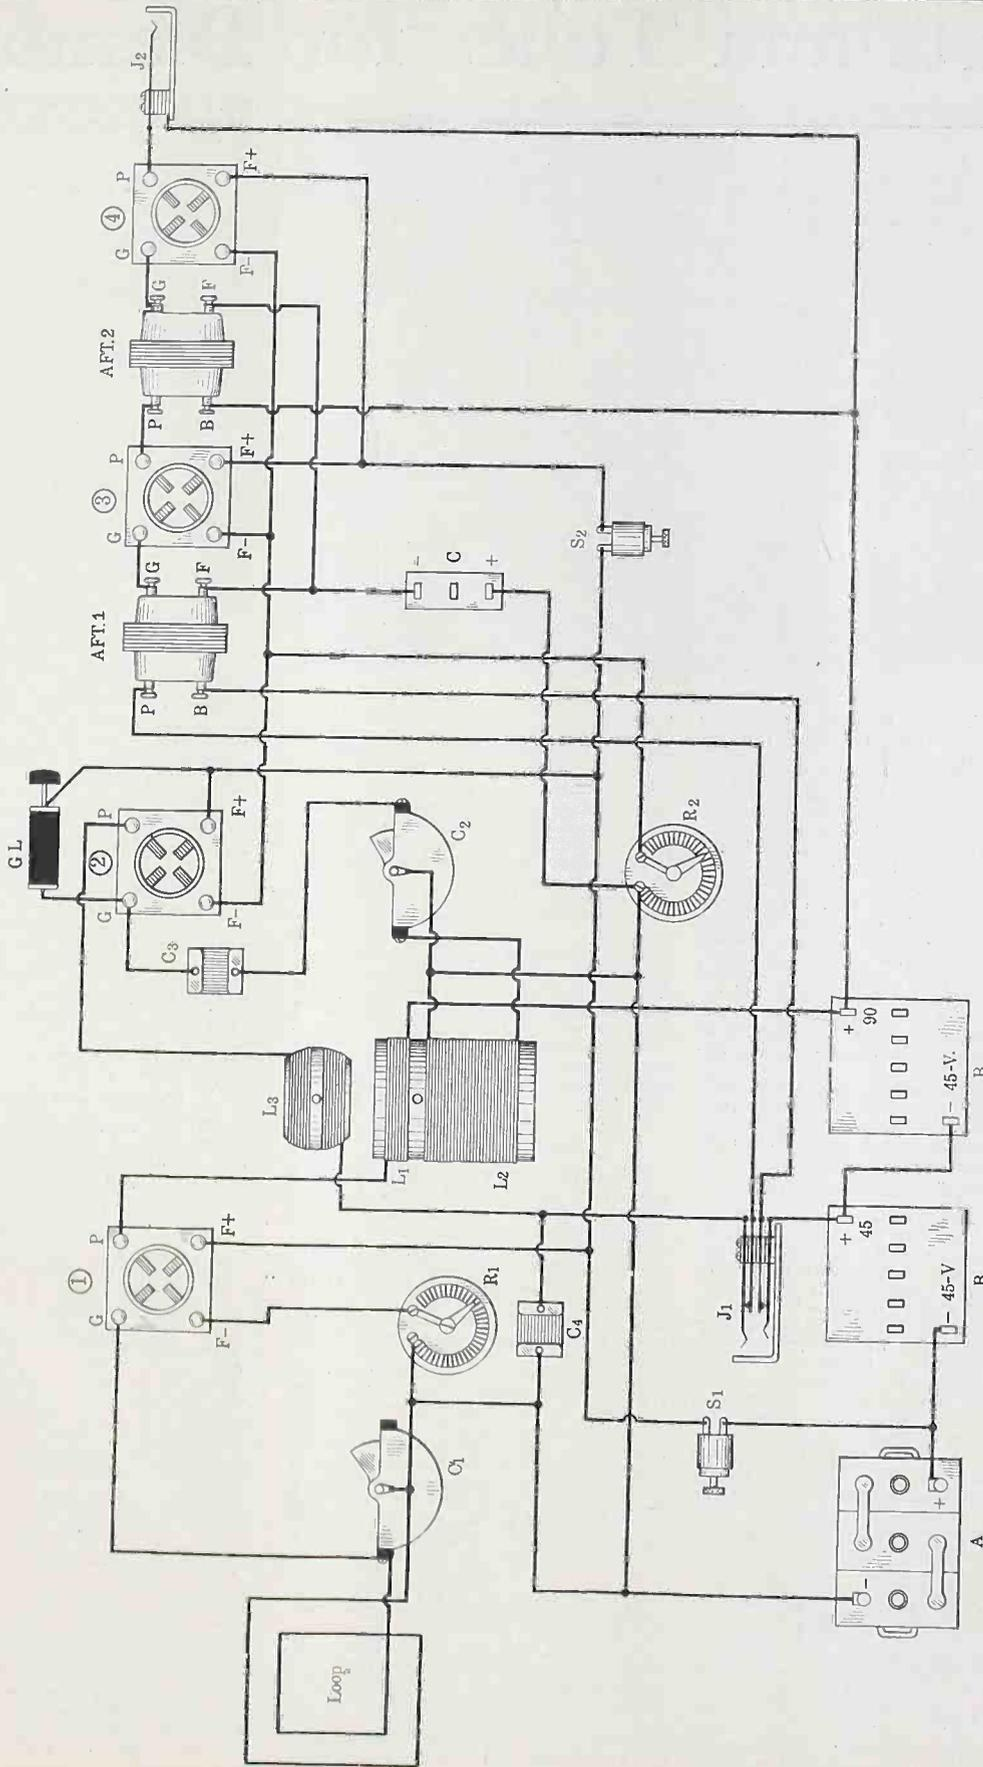
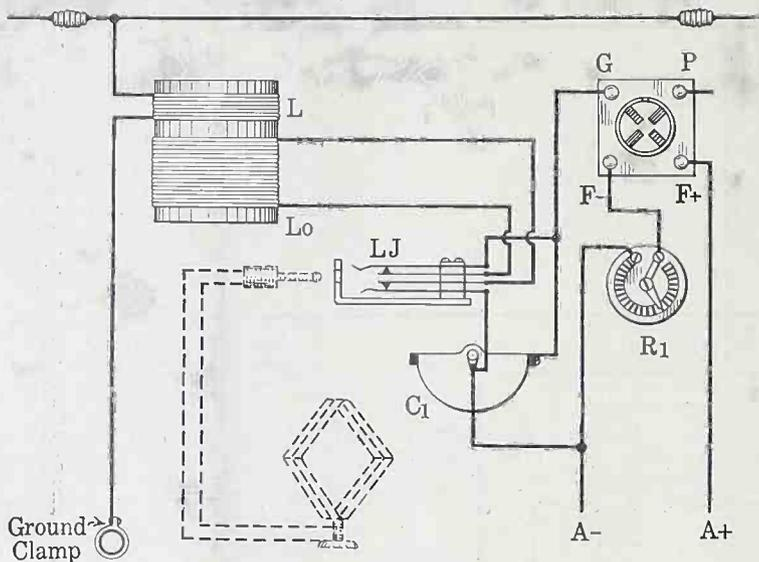

FIG. 1, the circuit diagram of The Diamond of the Air, shown in picture form, for the especial benefit of novices desiring to construct this efficient receiver.
FIG. 2, how to use a loop jack.
FIG. 2 (top), the panel layout, showing the RF condenser dial at left, tickler dial in center and detector dial at right. The loop jack J1 is at left, the audio jack J2 at right, while the switch is under the detector dial. Fig. 3 is a rear view of the receiver, showing the constructional layout.
FIG. 2, showing the inductive receiver with a carborundum detector, but hooked up in a different fashion from Fig. 7. The crystal detector is shunted across the variable condenser, and there is no fixed condenser shunted across the phones. The constants are otherwise the same as on Fig. 7.
As to the various types of crystal rectifiers, there are some detectors that function very well without a local battery. These are galena (most sensitive, but most difficult to keep in adjustment); silicon, (very good when a good piece is found, which is very difficult to do, adjustment much easier than that of galena); iron pyrites (best as far as sensitiveness and ease of adjustment are concerned, also easy to obtain); zincite bornite (a peculiar type of crystal detector, the bornite being the catwhisker, the zincite being in a holder. The zincite-bornite may be found to work sometimes better with a small battery, provided a high-resistance of approximately 1,500 ohms is connected in series with the battery and potentiometer (Fig. 2).
Fig. 1 shows the wiring of the loop set in picture form. As many novices may be desirous of constructing the receiver, they may follow this diagram with ease. The only point requiring stress is that correct polarities should be respected. Look at tube No. 1 in this diagram. The plate goes to the beginning of L1, the aperiodic primary of the 3-circuit tuning coil, the end of that winding to B plus amplifier voltage (90). Now look at the secondary, L2. The beginning of that winding goes to A minus (not to grid, as is commonly done in error). Thus the low potentials, the batteries, are side by side. If for wiring convenience (due to special location of parts) it is easier to connect the RF plate first to the end of L1, then the adjoining terminal (of secondary), rated as the beginning, goes to grid. Thus high potentials are kept together. Either way is correct. It will occur to some that two like potentials must necessarily be far apart in either case, the two high ones in the first instance, the two low ones in the second. That is inevitable, unless perhaps some manner of coil winding not now prevalent is used. Being so far apart, the beginning of L1 and the end of L2 may well be of like potentials. The vice lies in having them conflict where they adjoin,
The wiring as shown in Fig. 1 is drawn for greatest ease in reading, hence the potentials are correctly shown. The tickler is so positioned that its windings are parallel to those of the secondary L2. In both instances the beginning of the winding must be regarded as the upper terminal. In some coils it may be a little difficult to tell offhand just where the tickler connections go, because pigtail leads are brought through a tiny tubing, the actual connections to tickler winding terminals being obscured inside the tubing. If after a little effort the question is not settled to your satisfaction, then simply connect either fashion temporarily and test for better results by reversal of the two external leads. Another possible complication, that of a pancake tickler, may be solved in the same fashion.
The polarity question again arises when connecting variable condensers. Low potential is connected to the grid return. The grid is high potential and goes to the stator plates. The grid return is A minus in both instances, on the coil side, although if a grid leak is used (GL in Fig. 1) the manner of connection, from grid post to A plus on the detector tube socket, imparts a slightly positive potential to the detector grid.
The type of the detector tube used governs the grid return. The Sodion D21, requiring a 6-volt battery, functions well when connected to negative, even with no leak in use. Therefore with this tube one may omit the leak and has the option of trying a positive connection of L2 itself for possibly better results. If the UV200 or C300 is used as detector, this, too, will operate well on a negative grid return. All other tubes usually do better work as detectors when the grid return is to positive. Therefore if one uses UV201A, C301A, etc., throughout, one should follow the diagram as in Fig. 1, including the variable grid leak GL, although the detector input coil L2 has one terminal connected to negative A. This may be joined instead to positive A if the set shows any sign of instability, for thereby the positive potential is increased slightly. The same advice applies to WD11, WD12, C199,
The tubes in Fig. 1 are numbered, left to right, in the order in which they will appear on the baseboard when one is facing the panel. The designations are: 1, RF tube; 2, detector; 3, first audio, and 4, second audio. The first audio transformer is AFT1 and should be of the higher ratio, if two transformers of different ratios are used, so as to avoid overloading the last tube. The second audio transformer is AFT2. J1 is the single-circuit jack for detector tube listening in and J2 is the single-control jack for plugging in the speaker. R1 is a rheostat controlling the RF tube exclusively, while R2 actuates the detector and the two audio tubes. This is a good arrangement, since the audio tubes are not critical, and what will be the correct filament heating point for the detector will do very nicely for the audio. But do not burn any tubes more brightly than absolutely necessary.
The detector plate voltage should be about 45 in most cases for best volume, but may be less by choice. More is scarcely ever justified, unless resistance or impedance coupled audio is used. For the amplifiers (one RF and two audio), a plate voltage of 90 will serve very well, with a negative grid bias of $4\frac{1}{2}$ volts for the two audio tubes, if UV201A or C301A are used. Do not hesitate to try a lower grid biasing voltage no matter what type of tube is used, even less plate voltage on the RF amplifier. Often 45 volts on the RF tube plate, 45 on the detector, $6\frac{7}{8}$ on the first audio (B on AFT2), and 90 on the final audio output work very nicely. This should be tried by those who find the set produces so much volume that the speaker rattles, for the lower plate voltage has a tendency to overcome this. Also considerations of B battery economy may impel some to adopt this lower plate voltage. For $67\frac{1}{2}$ volts use the 3-volt C battery tap. Those who want utmost volume, hang the expense, should adopt the voltages shown in Fig. 1.
Fig. 2 shows how an aerial tuning coil is included in the circuit, with a jack (LJ) to enable one to plug in a loop. Those who have no present desire for loop operation should nevertheless include the loop jack and wire the first stage RF stage as shown in Fig. 2, continuing the wiring from the output of tube No. 1 by reading Fig. 2 into Fig. 1. This will prove very easy after a few moments' consideration. Only when the loop plug is inserted in LJ is the outdoor aerial, ground and RF coupler cut out. You will notice from Fig. 2 that the insertion of the plug lifts the outside springs off the inside ones, hence cutting off the secondary L, "and all that goes with it."
For exclusive loop operation, with no provision for cutting in an outside aerial, the loop terminals may be connected directly to the sides of the condenser C1, as in Fig. 1. But here, too, it is the better part of wisdom to provide the aerial tuning coil, or at least do the wiring with the jack LJ included, so a sudden desire for outdoor aerial use may be appeased.